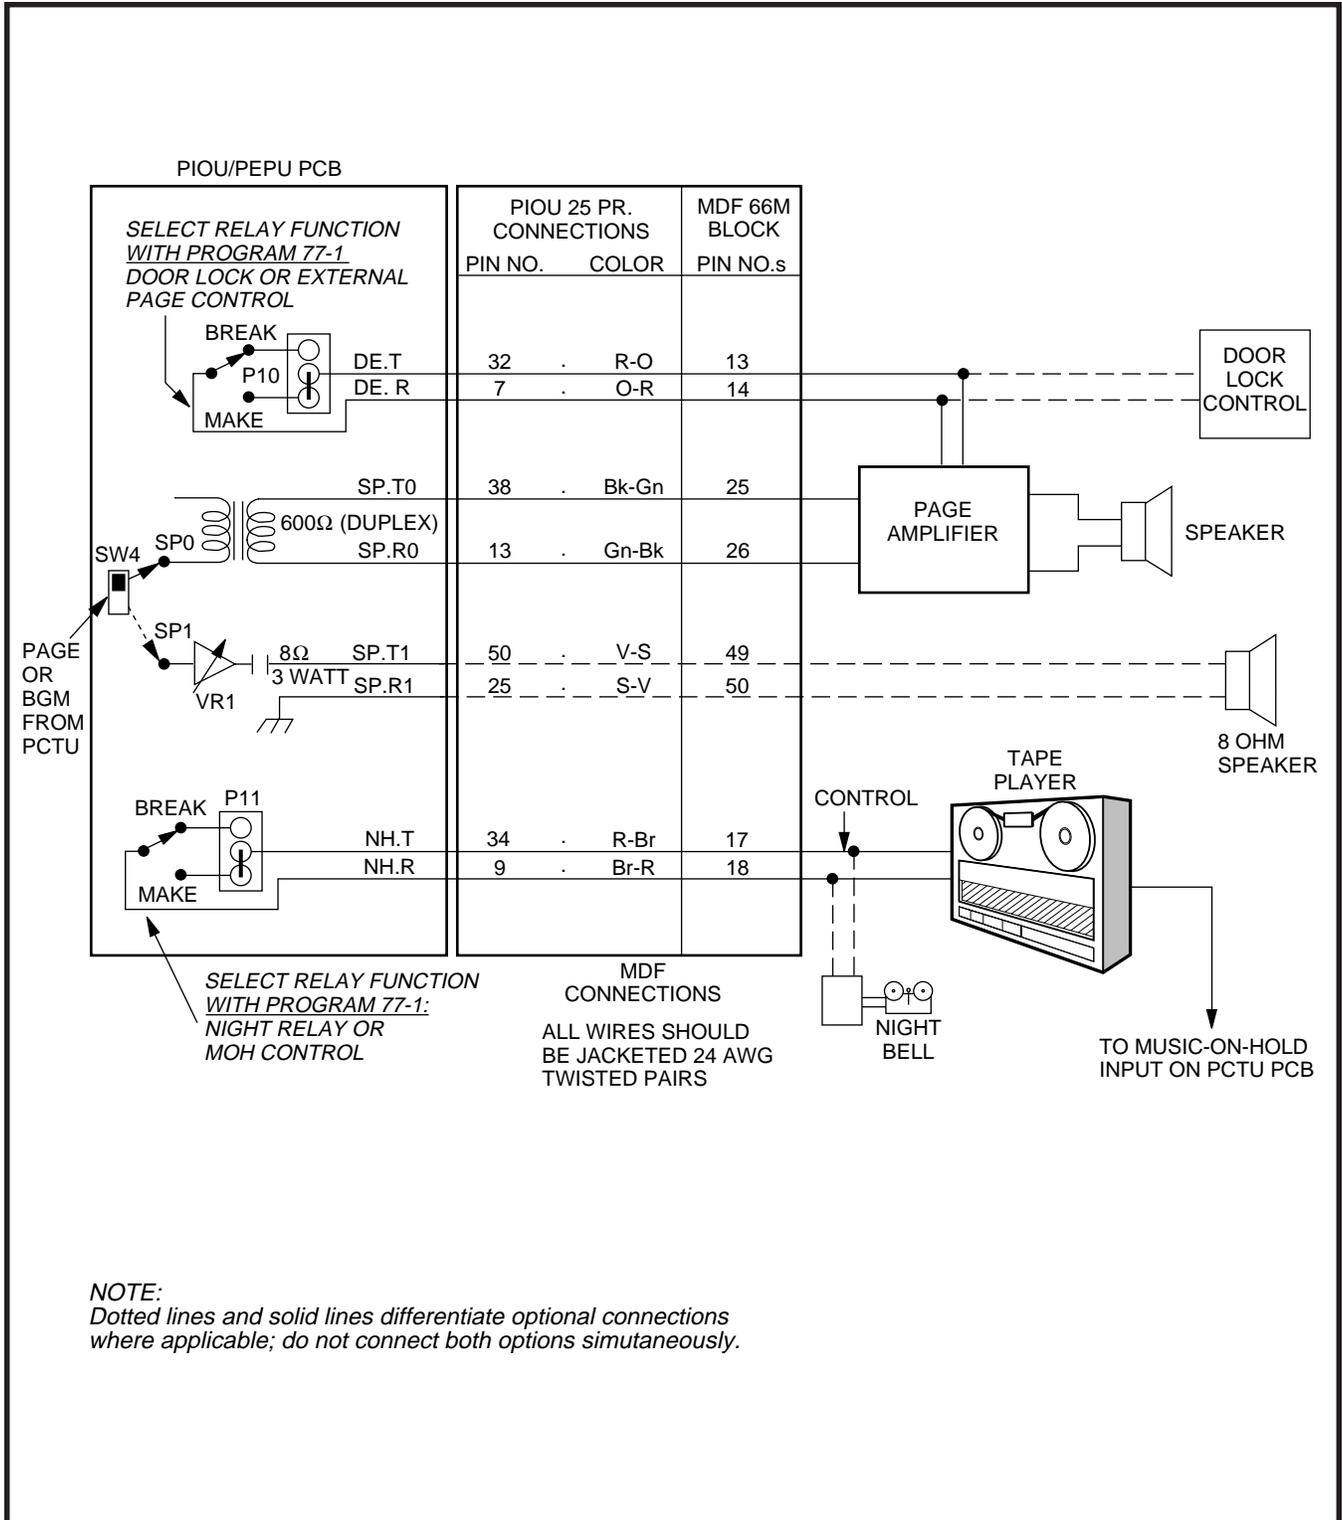

FIGURE 8-8
4.00 Two relays are provided on the PIOU, PIOUS, and PEPU PCBs to control the operation of peripheral equipment (see Figures 8-8 and 8-9):
4.11 The External Page/Door Lock Relay may be programmed for either the external page function or the door lock control function. (Refer to Figures 8-8 and 8-9.)
4.14 External Page Control. Configure the PIOU, PIOUS, or PEPU for the external page mute function in accordance with the following steps: (Refer to Figure 8-8 or 8-9.)
- 3) Refer to Figures 8-8 or 8-9 for wiring/interconnecting details. Connect the PIOU, PIOUS, or PEPU to the MDF as required for the external paging function.